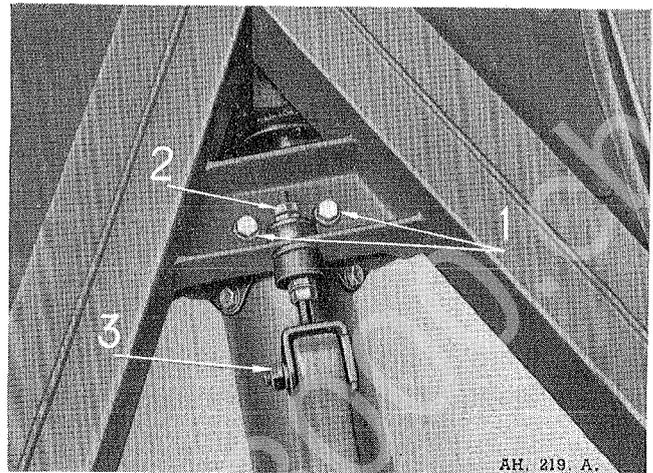
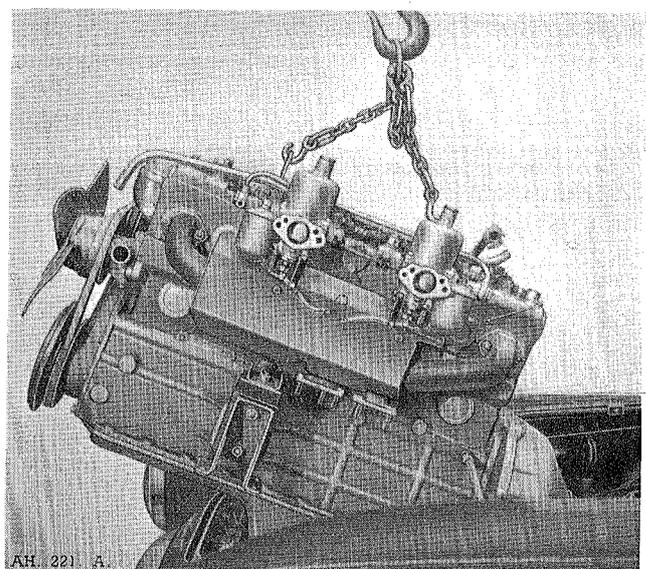

Fig. A.4. The gearbox lower securing points showing 1, Setpins; 2, Stabiliser Adjusting Nut; 3, Securing Pin.
Fig. A.5. Showing the engine and gearbox being removed.
- (7) Working beneath the vehicle remove setpins (1) fig. A.4 and unscrew the nuts (2) and (3) to release the stabiliser bar.
- (8) Detach the clutch slave cylinder from the gearbox bell housing by removing the two securing setpins. The slave cylinder push rod is released from the clutch operating lever by the removal of the securing clevis pin.
- (9) Hoist the engine complete with gearbox through the bonnet opening as shown in fig. A.5, ascertain that no damage is done by the gearbox when manœuvring it through the bulkhead aperture.